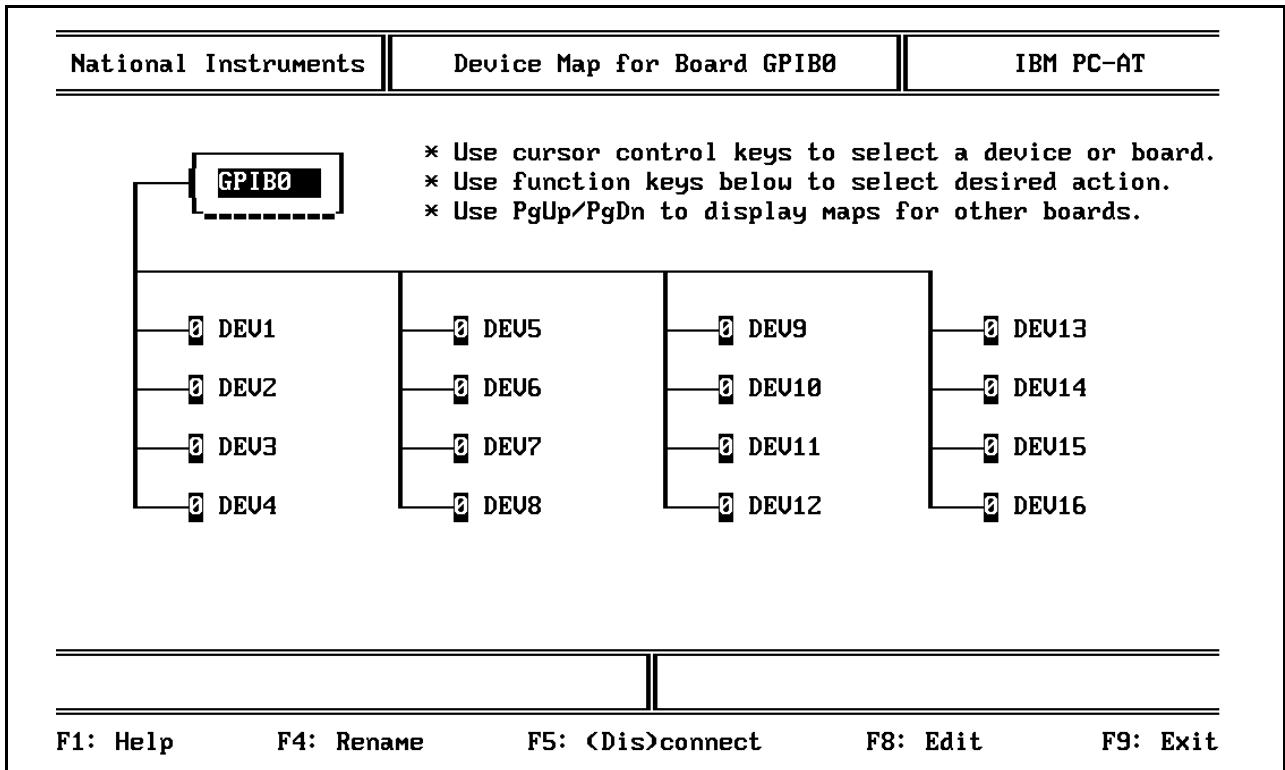
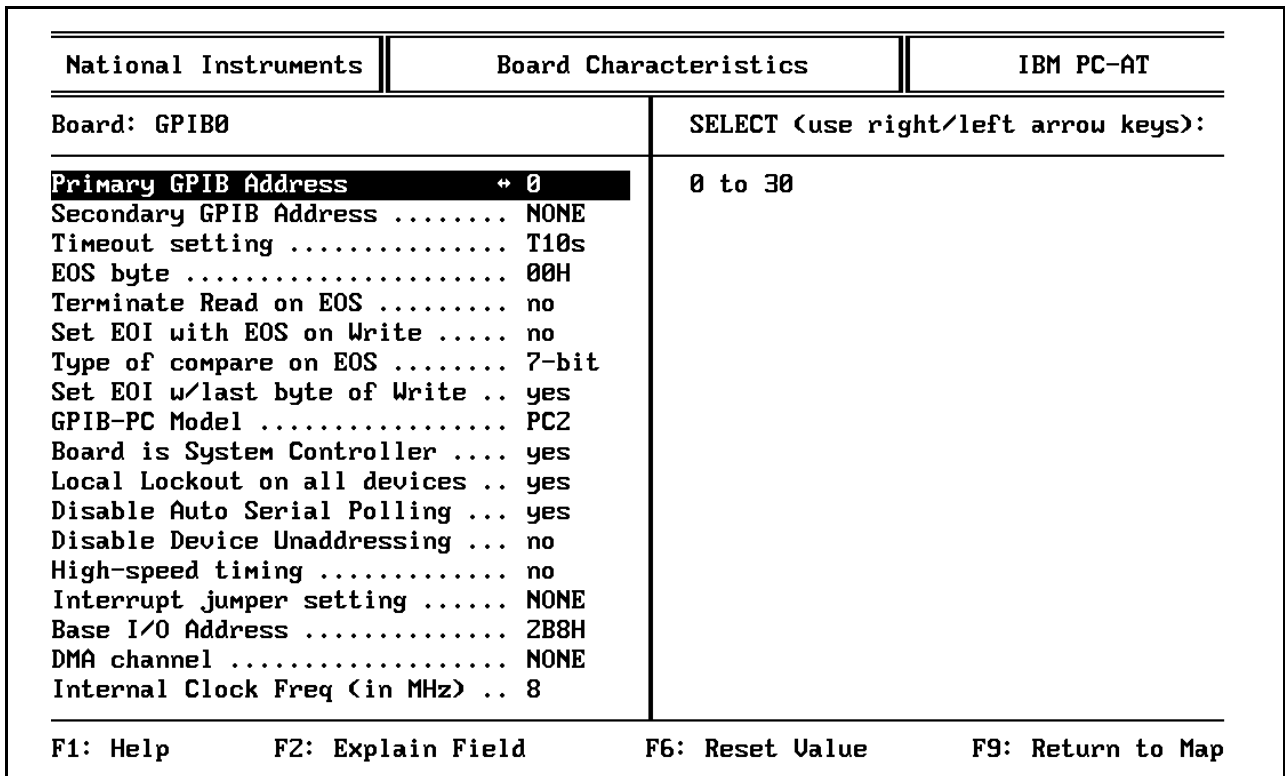

Figure C-2. Device Map for the GPIB-PCII/IIA Card
Figure C-3. GPIB-PCII/IIA Card Configuration Parameters
5. Follow the instructions on the display. The program firsts displays a device map for the GPIB card (Figure C-2). Select the GPIB-PCII/IIA Card or device whose parameters you wish to display, then press the function key, F8. Change the configuration of the GPIB-PC-II/IIA card to that shown in Figure C-3 and verify the configuration of the device DEV6 matches Figure C-4.